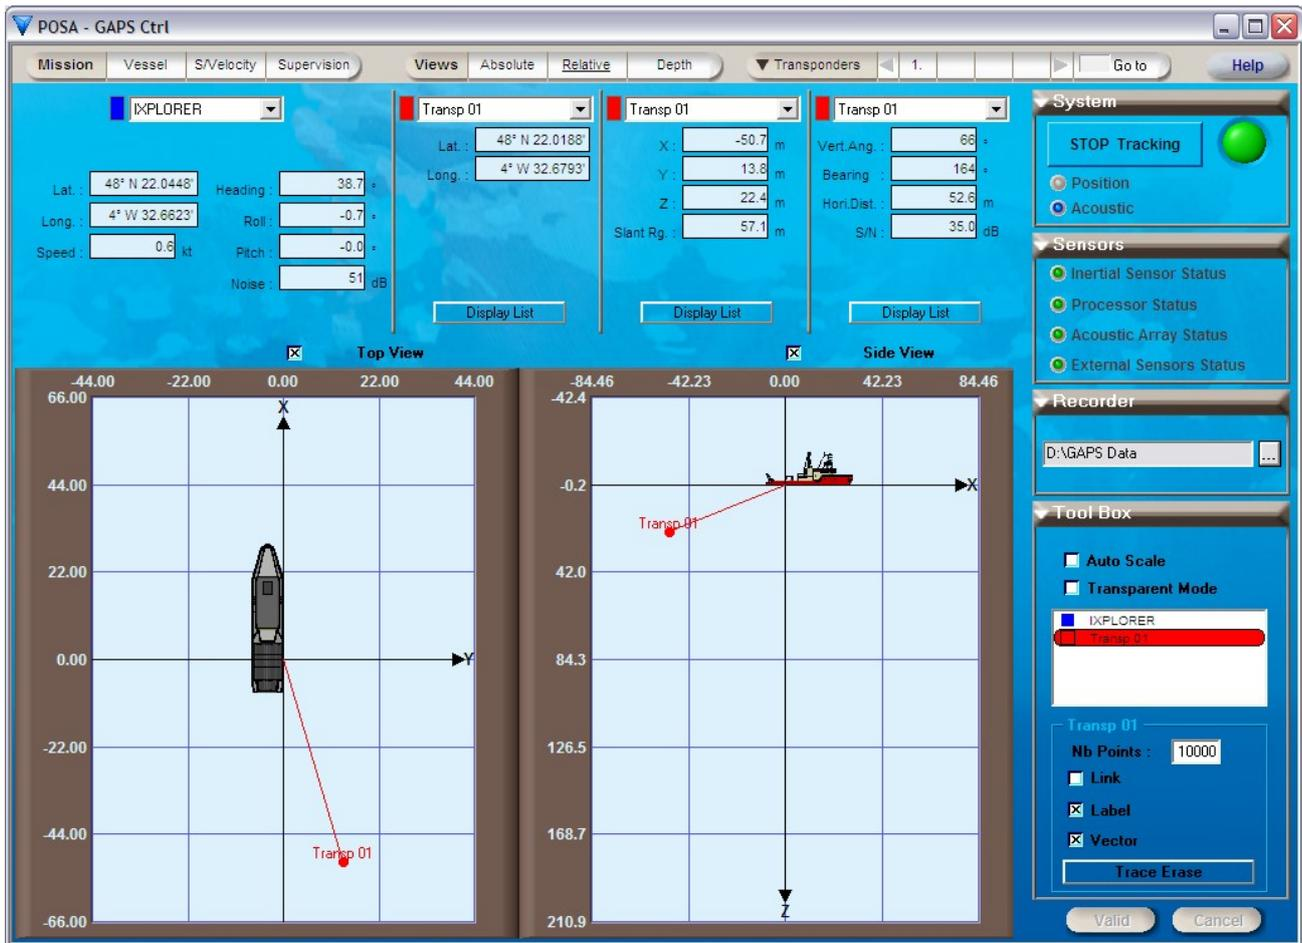

Figure 45 - Relative view
**Window Description** The corresponding window appears. The Figure 45 displays the relative view with a GAPS located at 6 m from the stern and at 2 m from the port side (inside the ship): **Xp = -6 m** and **Yp = -2 m** in this case.